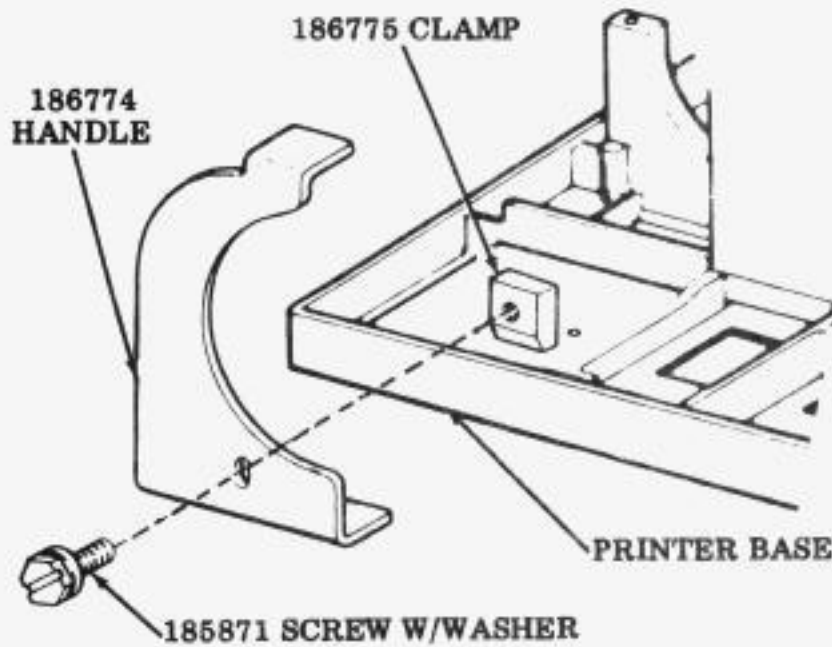

Figure 23 - Typing Unit Handle
2.61 The modification kit provides a handle (Figure 23) which when assembled to the printer base casting, assists in lifting the
- (c) Loosen the 186775 clamp (see Figure 23) and remove the 186774 handle.